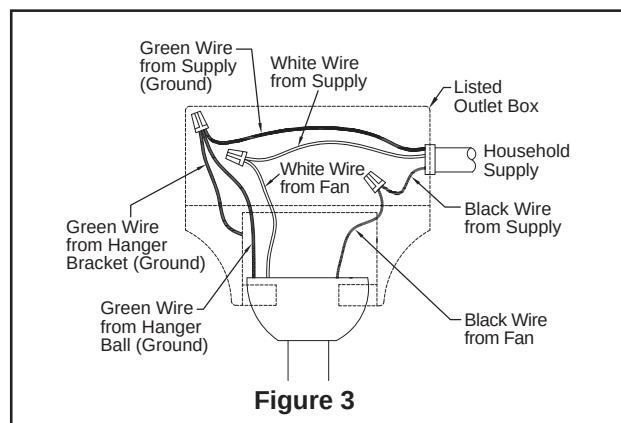

Figure 3
2. After connections have been made, turn leads upward and carefully push leads into the outlet box, with the white and green leads to one side of the box and the black leads to the other side. (Figure 3)